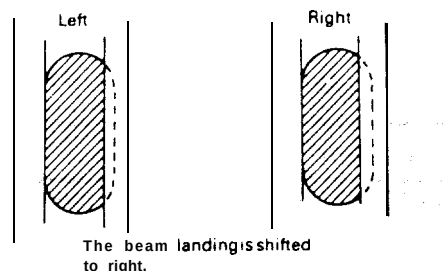

Figure 3-5.
- If the beam landing is shifted to right or to left as shown in Figs. 3-5. and 3-6., adjust the opening degree of the purity magnet so that the beam landing is correctly positioned.